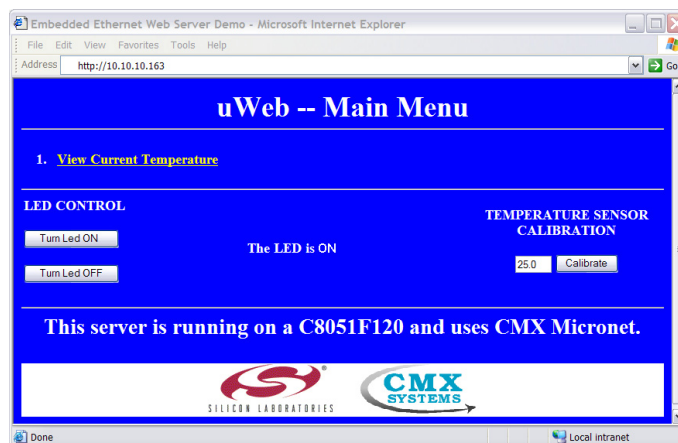

Figure 30. uWeb Embedded Web Server
4. Type in the IP address of the embedded system in a web browser and press Enter. The uWeb server executing on the MCU should be displayed on the screen as shown in Figure 30.